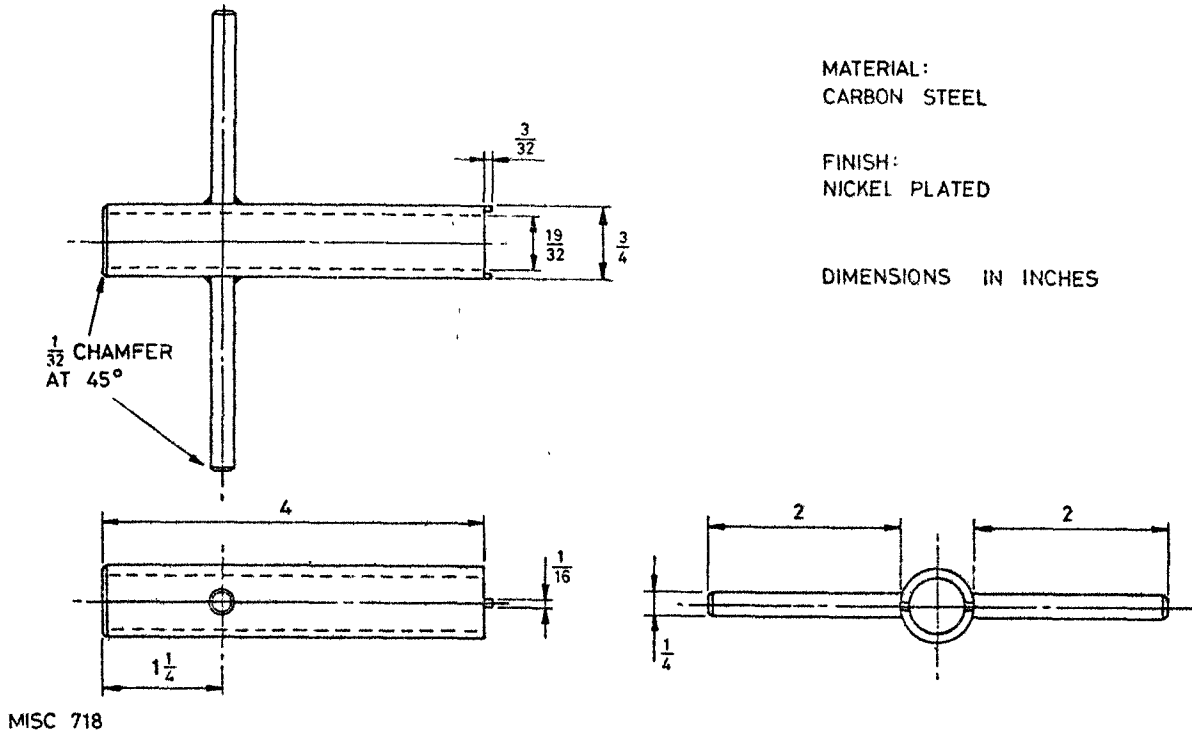

Fig 1 - Manufacturing details
2. When it is necessary to remove the carrying handles, locally manufacture the special tools as detailed in Fig 1 and 2.